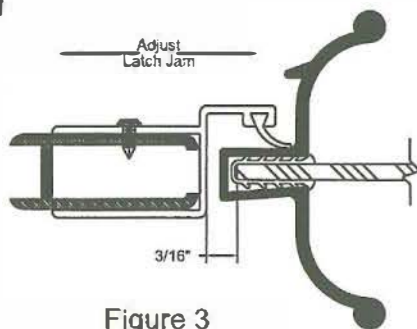

Figure 3
8. Replace latch jamb over wall channel. Close door and adjust latch jamb 3/6" from edge of glass (See Figure 3). Through the holes provided in the latch jamb, drill three #31 holes in wall channel. Secure latch jamb to wall channel with #6 x 3/8" SMS screws (21).
9. Set catch (22) in place on latch jamb (18) and secure with 6-32 x 3/16" screws (23).
10. Adjust drip trough (7), up at latch side of door and down at hinge side of door so water will drain into shower when door is opened. Adjust splash vinyl (6) to within 1/8" of curb.